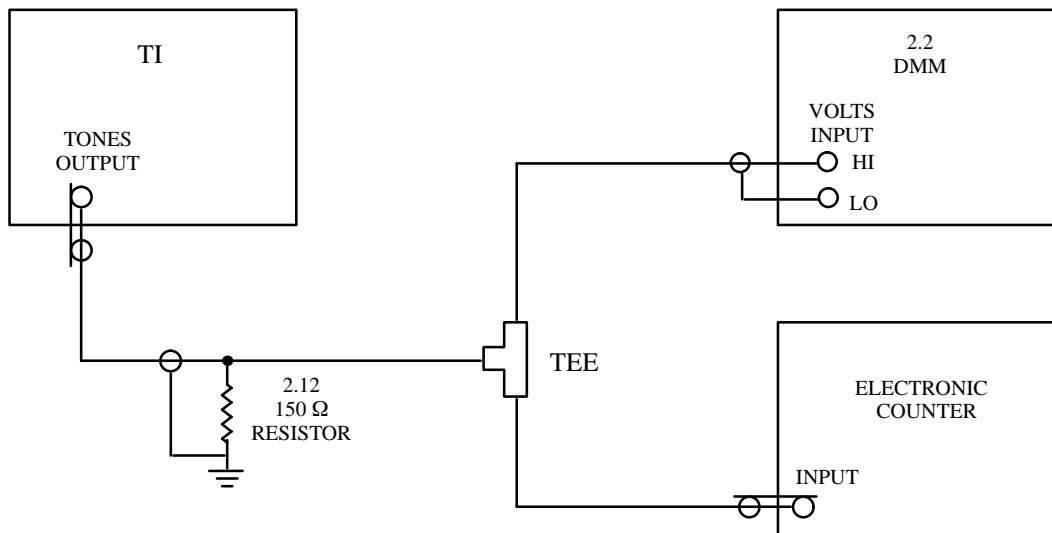

Figure 2. Dual Tone Generator Test Configuration
4.7.1.2 Connect the equipment as shown in Figure 2.